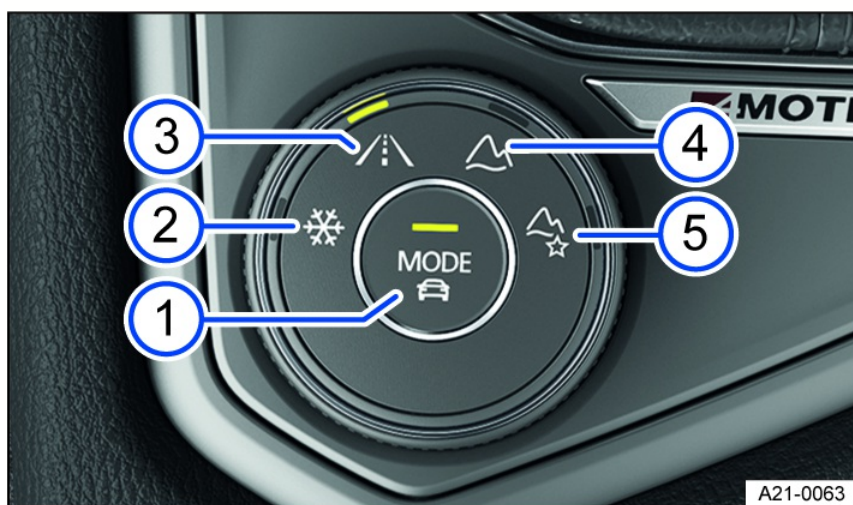

Fig. 127 In the center armrest: 4MOTION Active Control rotary switch.
1. Turn the dial until the LED next to the preferred driving mode comes on fig. 127.
2. To switch to the onroad driving modes, press the  button on the dial fig. 127 ① or tap **Onroad driving mode** in the Infotainment system.
Or: if the Offroad Custom driving mode is already selected, press  on the dial fig. 127 1.